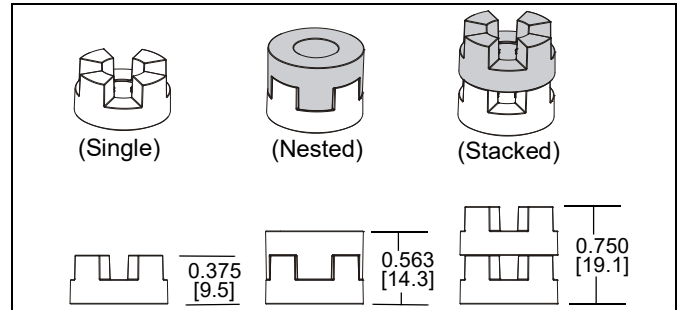

**Figure 5**
1. Align the center of the bracket (V and W) with center of screen. (See Figure 5)
2. Select correct screws, nesting spacers (if necessary) and universal washers from the hardware bag (A-L) and attach brackets to back of screen. (See Figure 5)